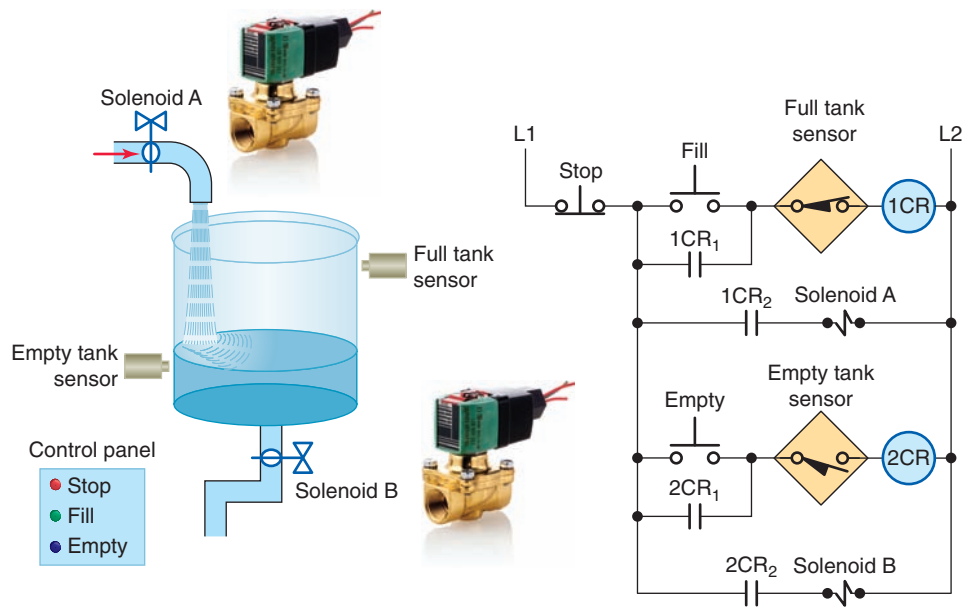

Figure 15-40 Hardwired tank filling and emptying operation for Problem 4.
4. Implement the hardwired tank filling and emptying operation shown in Figure 15-40 in Logix format.